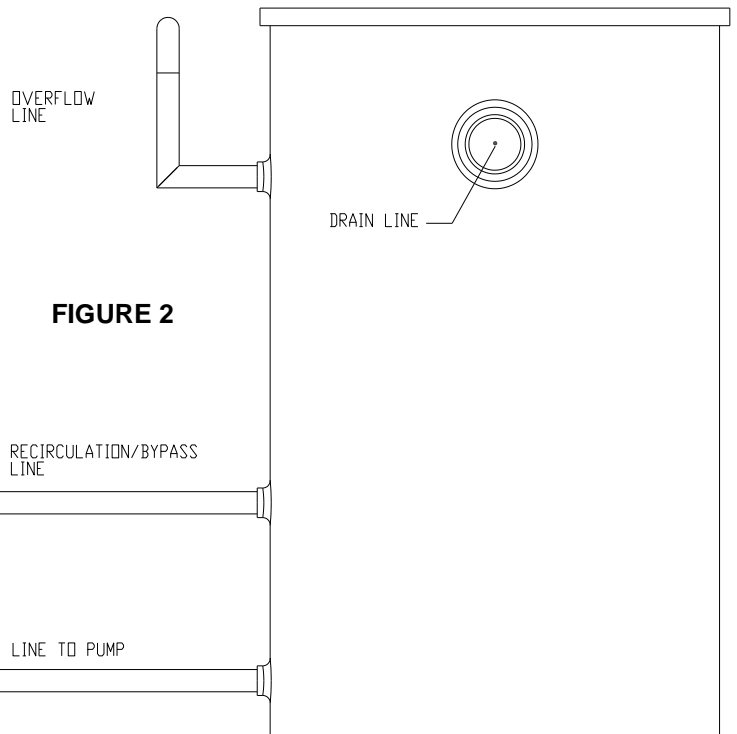

FIGURE 2
1. The 150 Gallon Reservoir (10) has four fittings that are pre-attached to the tank. There are three 1 ½" female threaded fittings and one 4" female threaded fitting. The dimensions for the tank are as follows: 32" diameter, 51" height.
3. The three 1 ½" fittings are in-line with each other, and are located 90 degrees from the 4" drain line, as shown in **FIGURE 2**.